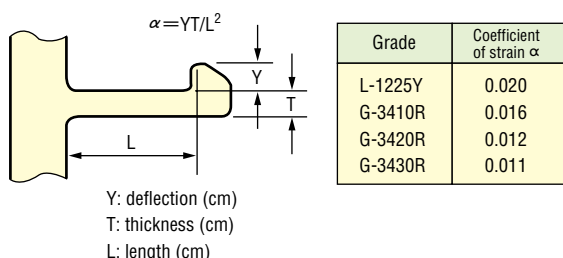

Fig. 44 A Standard Snap-fit Joint
Bring deformation after assembly to nearly nothing (zero) so that the coefficient of strain (α) by the deformation (Y) on assembly may become lower than values shown here. The coefficient of strain (α) by the deformation on assembly can be obtained from the structure calculating formula of cantilever beam (Fig. 44). Each corner must be rounded enough to prevent cracking caused by stress concentration. If loads are applied repeatedly to these parts, use data of repeated fatigue (bending) instead of the coefficient of strain (α).